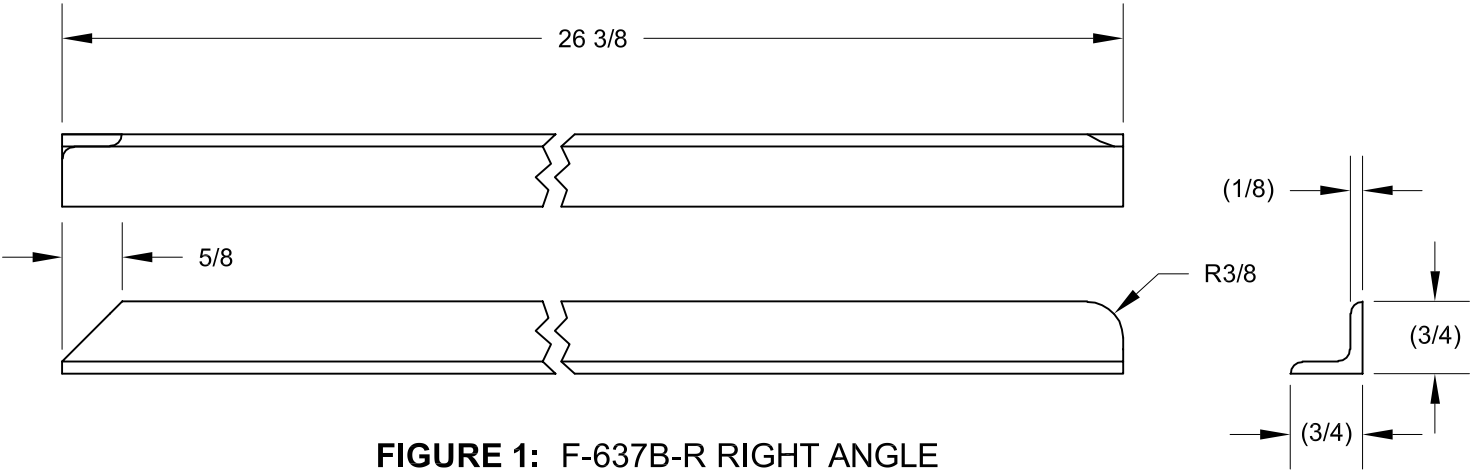

FIGURE 1: F-637B-R RIGHT ANGLE
Step 1: Fabricate two F-637B-R Right Angles and two F-637B-L Left Angles using AA6-125X3/4X3/4 and the information given in Figures 1 and 2.